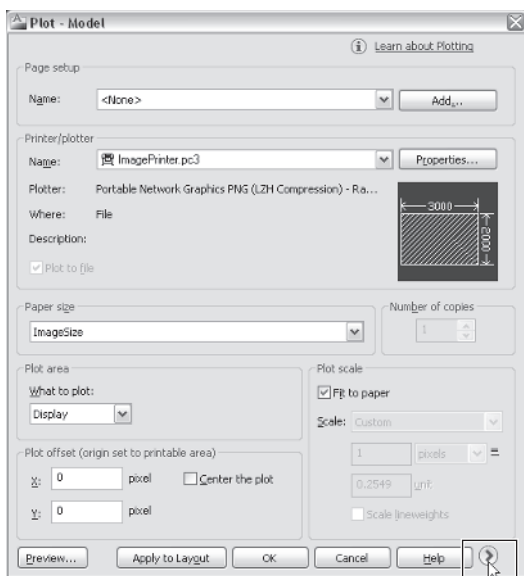

Figure 1.14 Plot dialog box
4. Click the More Options arrow button in the lower-right corner (see Figure 1.14) if the dialog box is not already expanded.